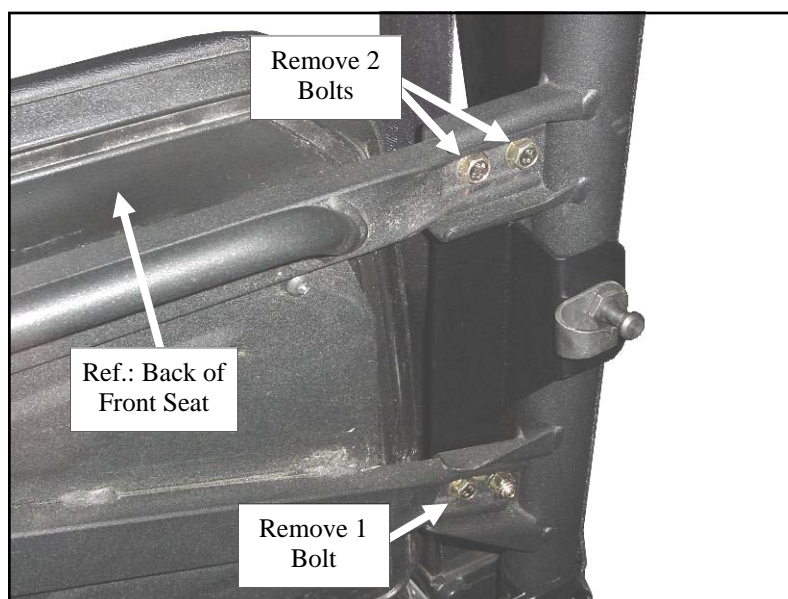

Fig. 7.1 (view from rear of passenger's side)
7.1 Per fig. 7.1, remove and discard the three original equipment bolts and nuts shown on the cross members of the front seat back. New, longer hardware is provided.
7.2 Per fig. 7.1, install the passenger's side rear latch mount oriented as shown. Use the following hardware: three M8x1.25 x 25mm flange bolts and three M8x1.25 flange nuts. Center the part in the slots and then tighten the bolts. They may need to be loosened for adjustment when the door is installed.